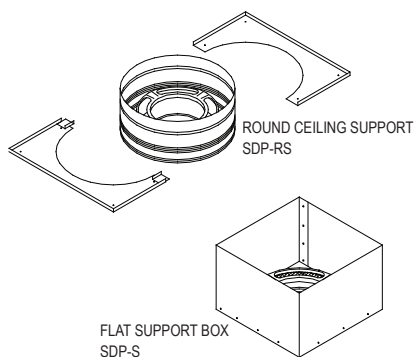
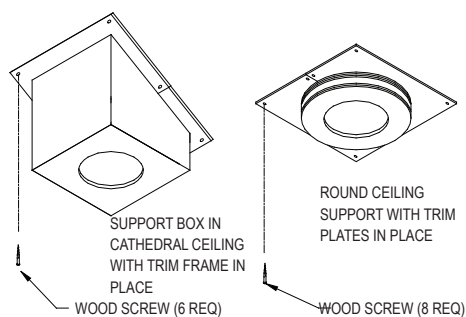
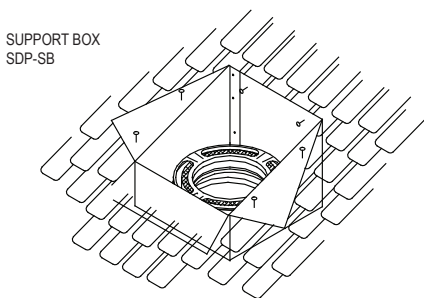

Figure 5
Figure 6
Figure 22
3. Install Support: Slip the Support Box (Figure 5), into the framed opening. It must extend at least 2 inches below the finished ceiling. Level the Square Support Box and nail it to the framing using at least two 8-penny nails per side. The two Trim Frames are positioned as shown, and screwed through the ceiling and into the framing members with (6) 1-1/4 inch long round-head wood screws. (Figure 6). The bottom of the Round Support must also be at least 2 inches below the finished ceiling. Trim for the Support Boxes is "U-shaped". The trim pieces are adjusted to accommodate the Square Support Box, and screwed into the framing, using wood screws. A completed Square Support Box installed in
a cathedral ceiling with the "U-shaped" trim is also shown in Figure 6. Trim kits are available in brass, to enhance the appearance of the various Support Boxes and Trim Frames. Where the chimney passes through additional floors and ceilings, install Firestop Radiation Shields. Where the chimney passes through an attic, Firestop Radiation Shields and Insulation Shields must be installed.
3. Install Support Box: Slip the Square Support Box into the framed opening so it projects at least 2 inches below the finished ceiling and rafters, and extends above the ceiling to framing or decking materials to which it will be nailed. Level the Support Box, and slit the corners to the roofline where they extend beyond it. Bend the flaps (created by the slitting) flush with the roof, and nail the Support Box to the roof or framing with at least two 8-penny nails per side. (**Figure 22**). Screw the trim sections into the ceiling. (**Figure 6**).